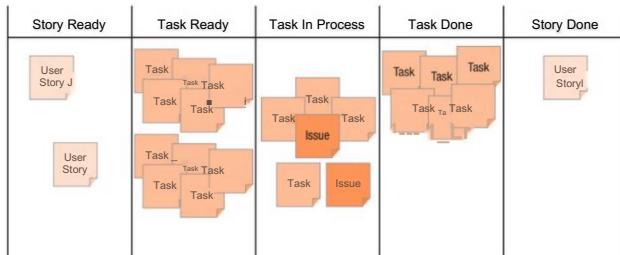

FIGURE 17.1 Kanban board
The second thing to know about Kanban for the exam is that there are five core principles. Looking at figure 17.1, can you see how the Kanban board supports the first three principles listed below?
- **Limits WIP (work in progress)** Iteration backlogs are an example of limiting work in progress. On a Kanban board, tasks are coded or colored for the person responsible for completing them. In the example given in figure 17.1, a new task will not be added to the Task in Process column for a team member until their current task moves to the Task Done column.
Think About It. Look again at the Kanban board example in figure 17.1. Can you see why Kanban, if used as a product development method, is called a *null system*?